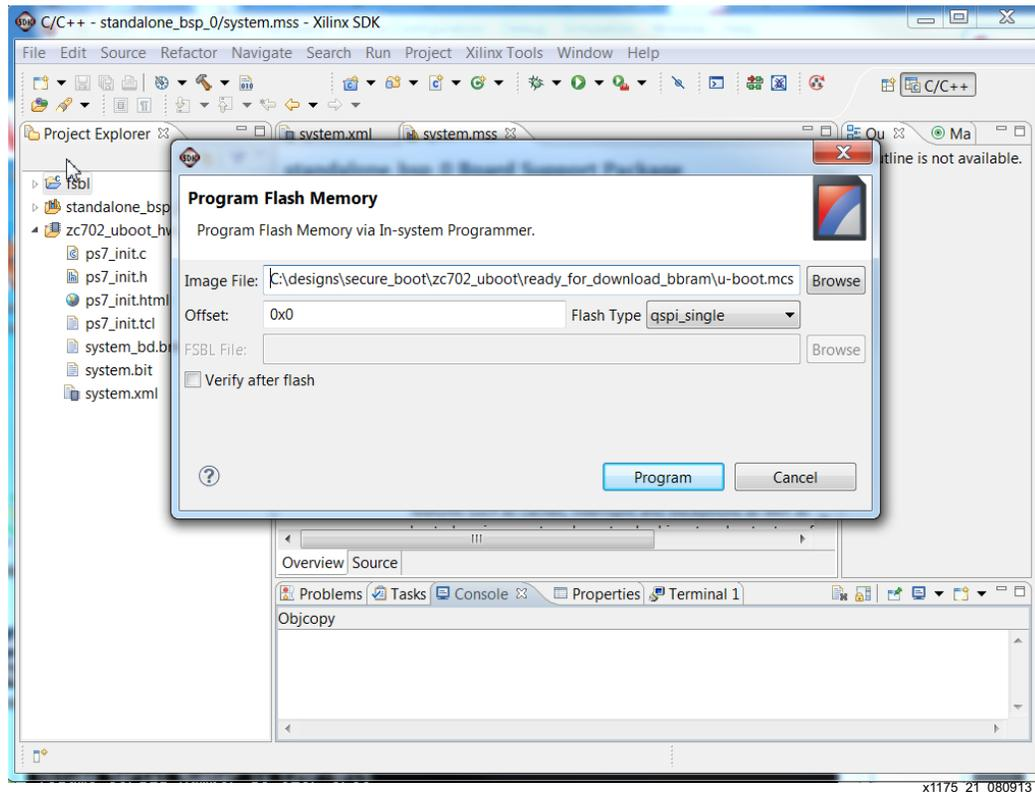

Figure 22: Programming QSPI NVM
- From SDK, click **Xilinx Tools** > **Program Flash**. Optionally, click **Verify after Flash**, and Click **Program**. Figure 22 shows programming the NVM QSPI flash memory.